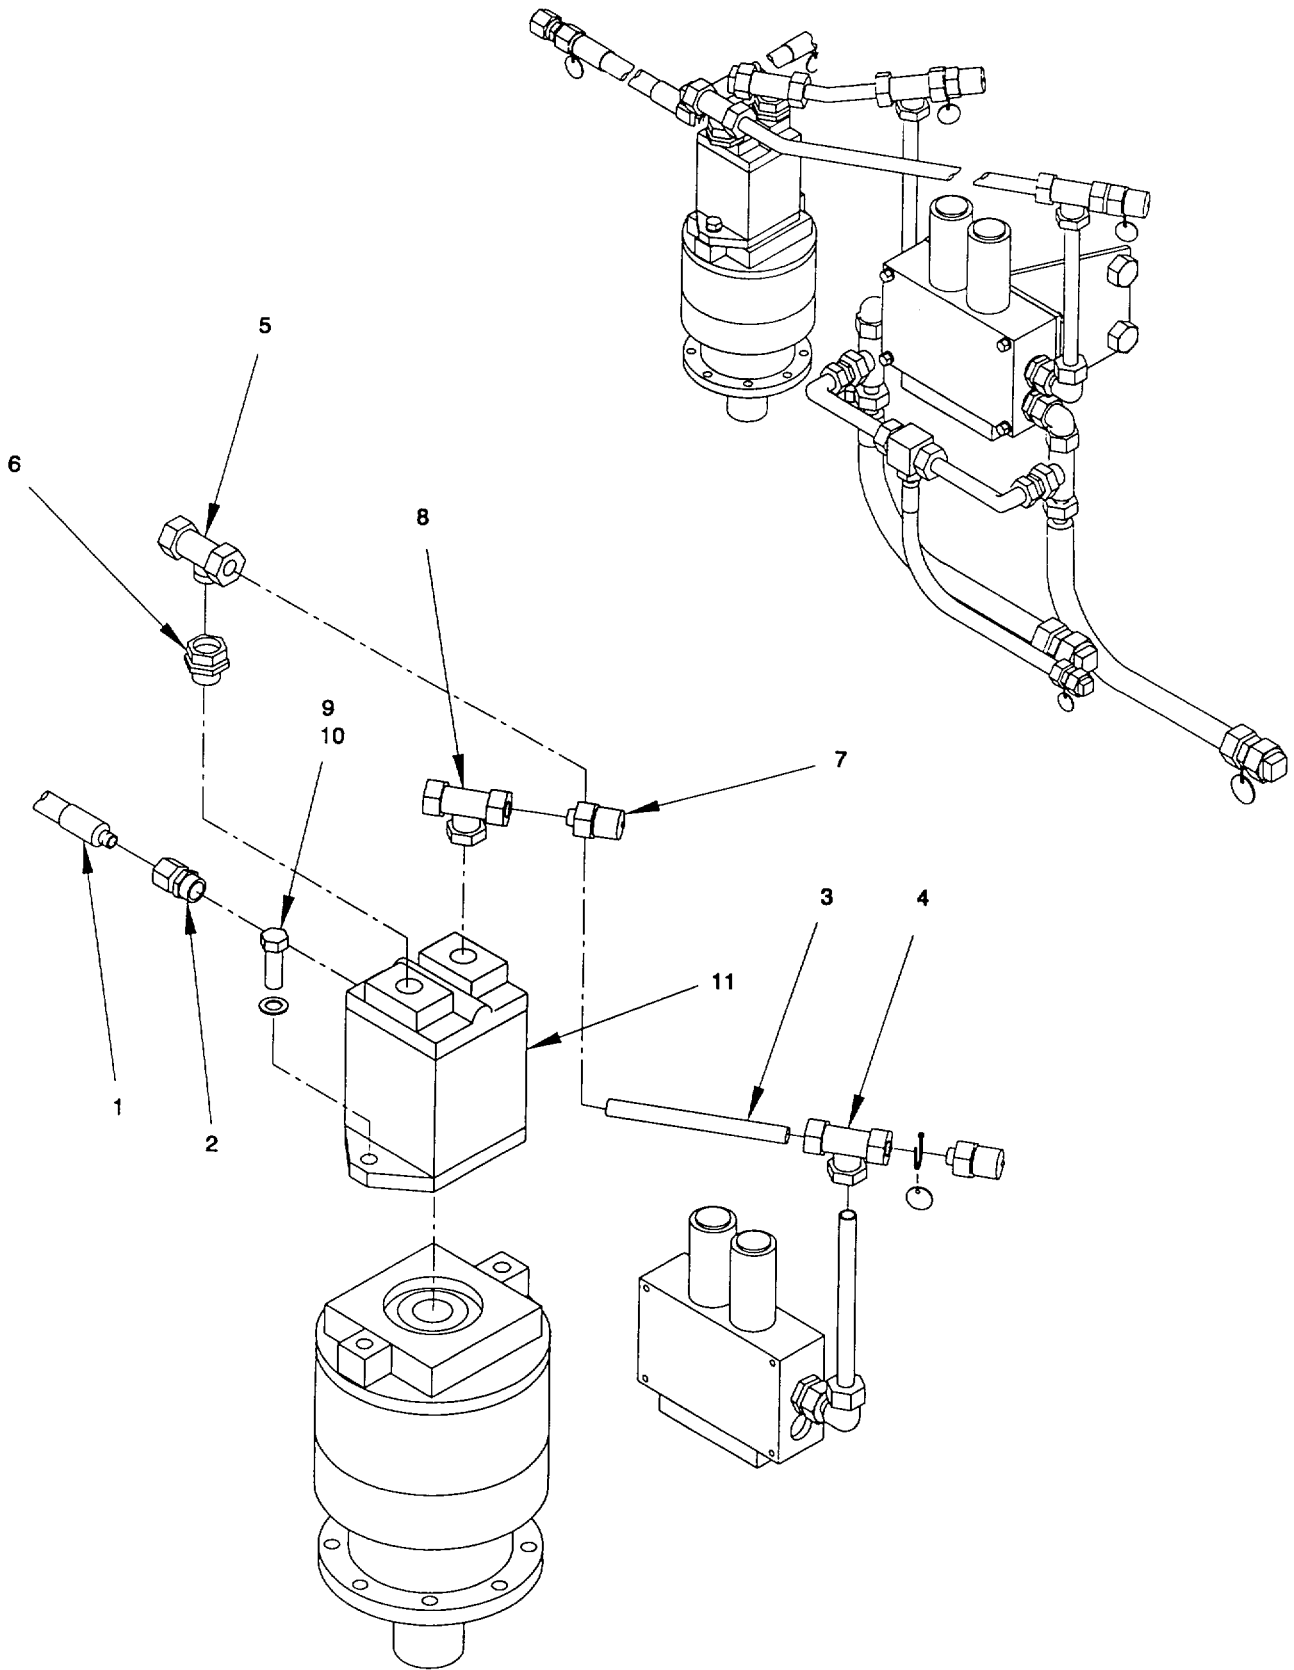

Figure 3-10. Hydro-Motor, Remove/Install.
a. *Remove.* (figure 3-10)
- (1) Disconnect hydraulic line maximum pressure hose (1) by unscrewing straight male stud fitting (2). Protect open hose end from contamination.
- (2) Disconnect hydraulic pipe (3) at equal tee (4) and adjustable tee fitting (5). Protect open pipe ends from contamination.
- (3) Remove adjustable tee fitting (5) from straight male stud fitting (6) to remove pipe (3). Protect open pipe ends from contamination.
- (4) Remove adjustable tee fitting (7) from straight male stud fitting (8) Protect open pipe ends from contamination.
- (5) Remove two hex screws (9) and collect lockwashers (10). Remove motor (11) for repair.
b. *Install.* (figure 3-10)
- (1) Position motor (11) on planetary gearing and secure with two hex screw (9) and lockwashers (10).
- (2) Install straight male fitting (8) and adjustable tee fitting (7) .
- (3) Install pipe (3) by connecting adjustable tee fitting (5) on straight male stud fitting (6).
- (4) Install hydraulic pipe (3) between equal tee (4) and adjustable tee fitting (5).
- (5) Connect hydraulic line maximum pressure hose (1) with straight male stud fitting (2).